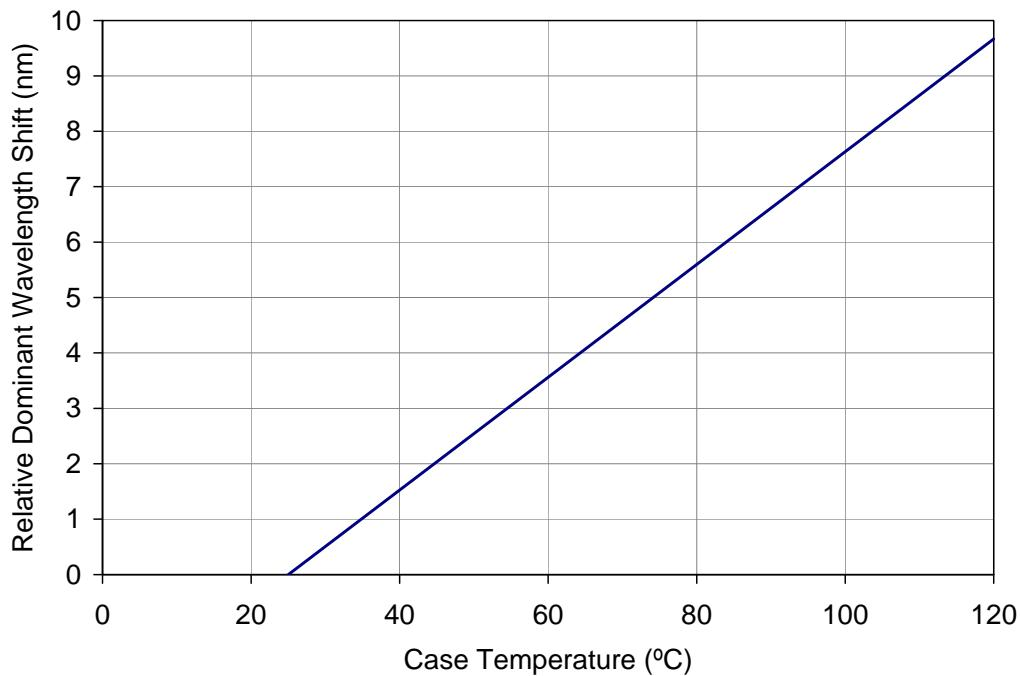

Figure 6: Typical dominant wavelength shift vs. case temperature.
1. Amber LEDs have a significant shift in wavelength over temperature; please refer to Figure 6 for details. Caution must be exercised if designing to meet a regulated color space due to this behavior as product may shift out of legal color space under elevated temperatures.